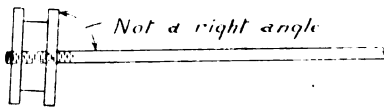

FIG. 1.
(1) It depends upon whether the machine will excite itself; this is a doubtful point. But it would work as a motor even if it failed to be self-exciting as a dynamo, or would probably be successful as a dynamo if the magnet coils were separately excited by means of a battery. Wind armature (tripolar) with No. 26 gauge single silk-covered copper wire. Get on as much as you can; about 2 ozs. will be required. Wind field-magnet to a depth of 1/2 in. or so with about 4 ozs. of No. 24 gauge s.c.c. copper wire on each limb; connect in shunt to brushes as Fig. 1 A, page 12, of "Small Dynamos and Motors." (2) Yes; get in a 1 1/4-in. diameter armature if possible, and fit new pole-pieces which embrace more of the armature than the present ones do. Most certainly use stampings. (3) Not necessarily; it depends upon the position of the brushes. In the diagram the brushes would be set top and bottom, but with a slight forward lead. You can always find the best position by trying the brushes in various positions. If they are fitted upon a rocker it will enable you to do this easily. Correct position is absolutely necessary. (4) About 2 amps. with 4 or 5 volts at light load, but you could load it up to about 3 amps.
(5) Voltage will depend upon speed. You may obtain anything between 3 and 6 volts. Run at 4,000 r.p.m. and try with a 6-volt 1 c.p. lamp. (6) You might be able to light two or three 1 c.p. lamps. Get 6-volt lamps, each taking about 1/2 amp.
[17,314] **Fixing Small Pistons to Piston-Rods.** J. W. (Sheffield) writes: I find when making small pistons and rods, especially pistons about $\frac{1}{2}$ in. diameter and rods about $\frac{1}{4}$ in. diameter, that the piston, after turning, drilling, and tapping, will not screw on the rod properly, i.e. being slightly sideways, as sketch (Fig. 1). These rods are dead size to begin with; and, of course, do not